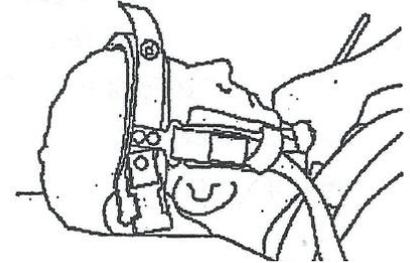

Figure 4: Adjusting the A/P of the forehead band.
5. Fit the facemask to the patient. Observe the A/P position of the facemask uprights. They should lie forward of the ears when the forehead band is against the forehead. To adjust the A/P, loosen the forehead band hook and pile (FIGURE 4) to allow for either lengthening or shortening of the forehead band and silicone pad to reposition the uprights.